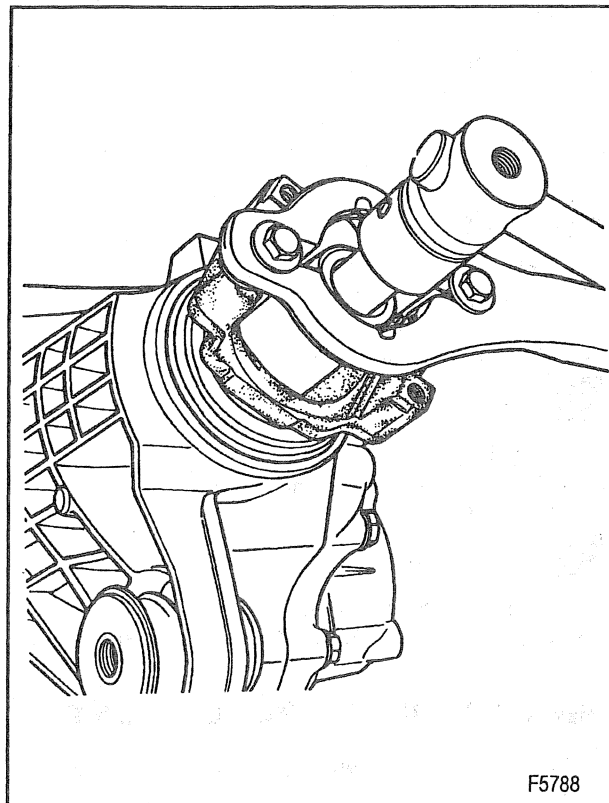

Figure 27—Removing/Installing the Pinion Nut
2. Nut using J 8614-01 (figure 27).